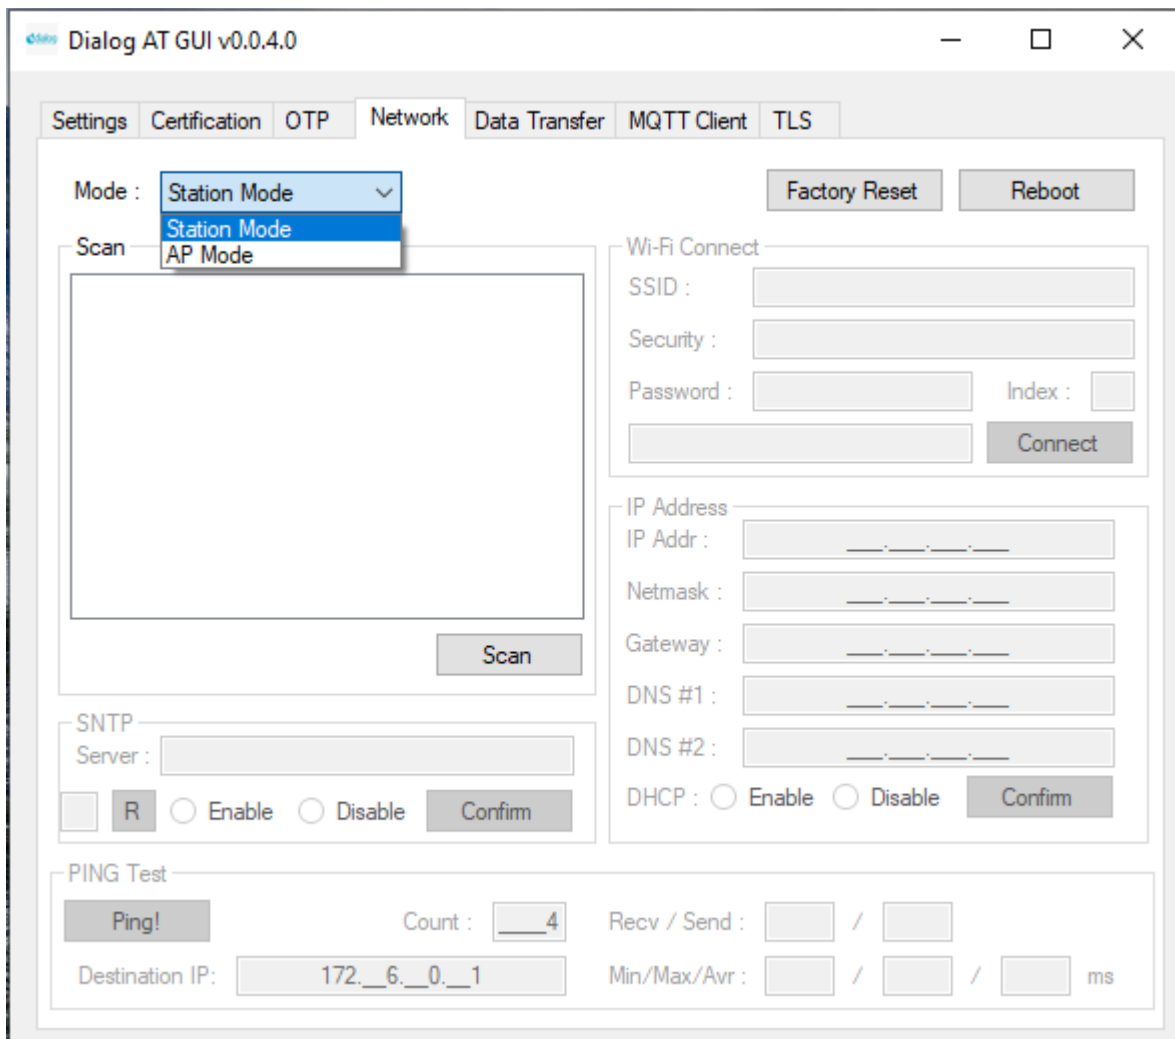

Figure 15: Setup Window – Station Mode
- The network mode is changed. Next, DA16200 reboots and the station mode setup window opens. See Figure 15